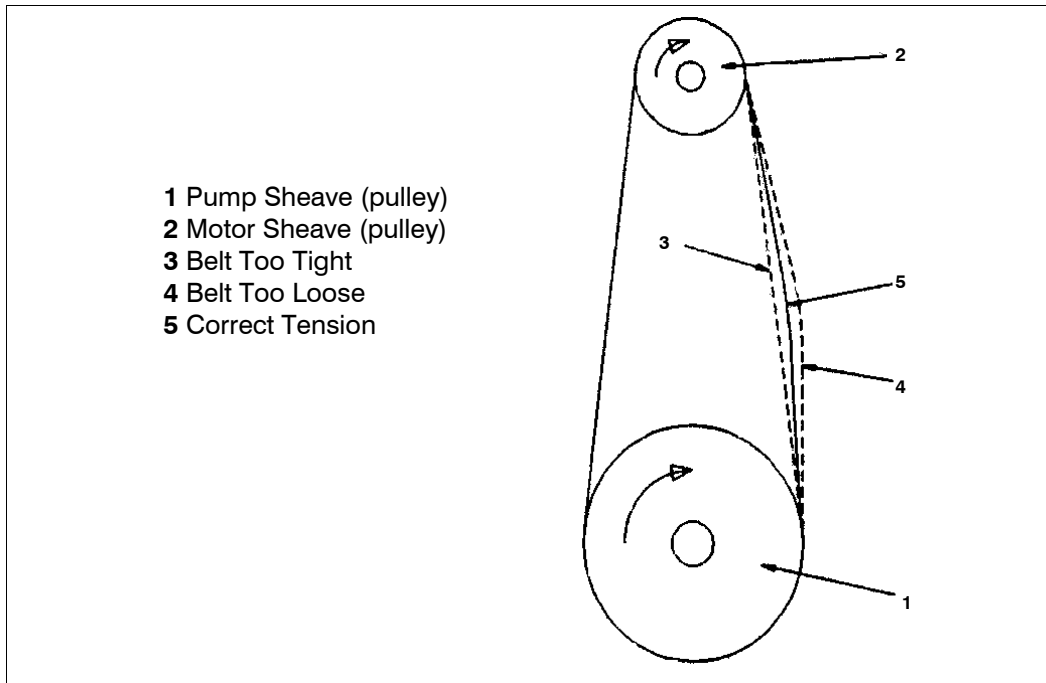

Figure 5. V-Belt Drive
- 2) Start the drive and continue to tension the V-belt(s) until only a light bow on the slack side of the drive appears while operating under load conditions as shown in Figure 5.